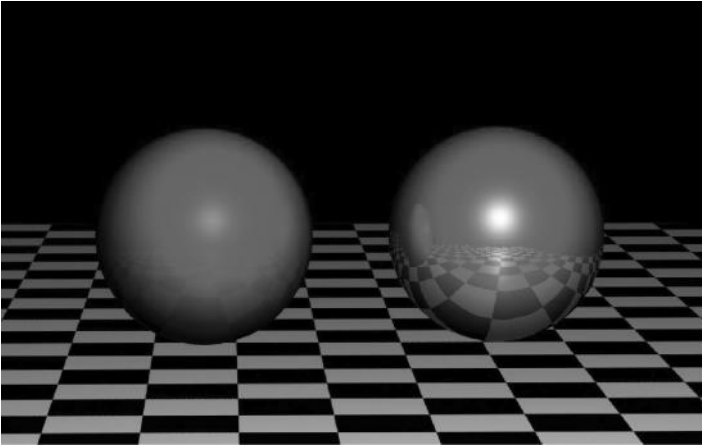

FIGURE 4.52 (SEE COLOR INSERT) The sphere on the left has a reflection value of .3, while the sphere on the right has a reflectivity value of 1.
**Reflection**—Reflection is the amount, in a range of 0 to 1, a material reflects its surroundings, where 0 is not reflective at all and 1 is like a polished mirror. Reflections occur in two ways in Maya—with reflection maps, which are simulated reflections based on 3D textures (more on this later), or with ray tracing. Like calculating shadows, ray tracing does a calculation for every ray of light occurring in the scene for both casting shadows and reflecting objects in the surface of other objects. Ray tracing, when turned on, can be very expensive in terms of processing power, and for that reason is often the last solution to be used. Another thing to remember is that the reflection value is simply how “reflective” the surface is, and this value is only available when using ray tracing to calculate reflections or using a texture map in conjunction with a reflection map (for more information on this, see the Texture section of this chapter). You can use an alpha-value texture map to generate areas on a material that are more or less reflective. Figure 4.52 shows an example of two different reflectivity settings, with a value of 1 being a complete mirror and 0 being non-reflective. Figure 4.53 also shows the effect of using a texture map to determine reflective and non-reflective areas of the surface of an object.